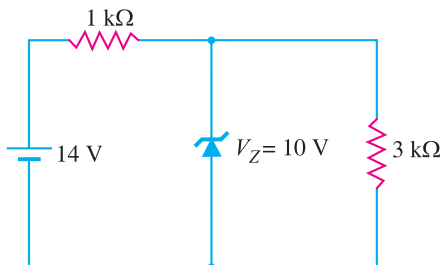

Fig. 6.79
14. In the circuit shown in Fig. 6.79, is zener diode in the on or off state ? [Off]